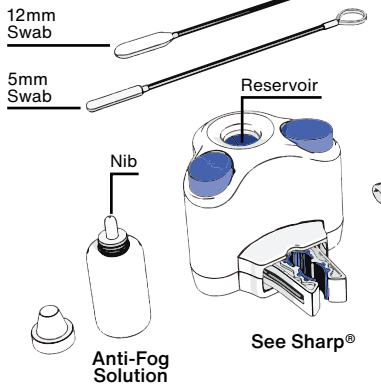

FIGURE 1
1. Peel the label from the package and remove the contents (*figure 1*) which include: one (1) See Sharp® unit, one (1) microfiber cloth, one (1) 5mm trocar swab, one (1) 12mm trocar swab, one (1) bottle of anti-fog solution.